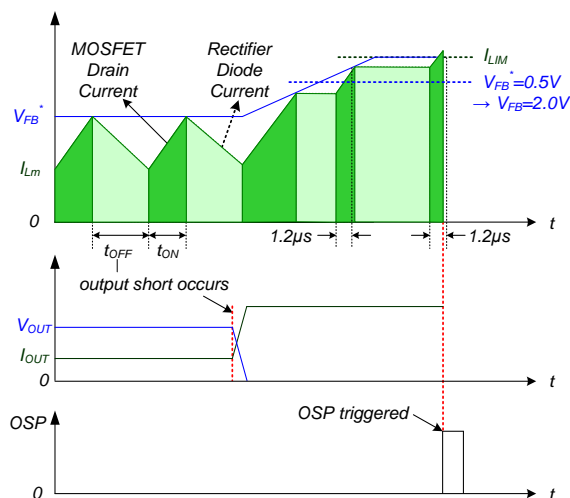

Figure 22. Output-Short Protection
**4.3. Output-Short Protection (OSP):** If the output is shorted, steep current with extremely high di/dt can flow through the SenseFET during the minimum turn-on time. Such a steep current brings high-voltage stress on the drain of the SenseFET when turned off. To protect the device from this abnormal condition, OSP is included. It is comprised of detecting  $V_{FB}$  and SenseFET turn-on time. When the  $V_{FB}$  is higher than 2V and the SenseFET turn-on time is lower than 1.2 $\mu$ s, the FSGM0465R recognizes this condition as an abnormal error and shuts down PWM switching until  $V_{CC}$  reaches  $V_{START}$  again. An abnormal condition output short is shown in Figure 22.